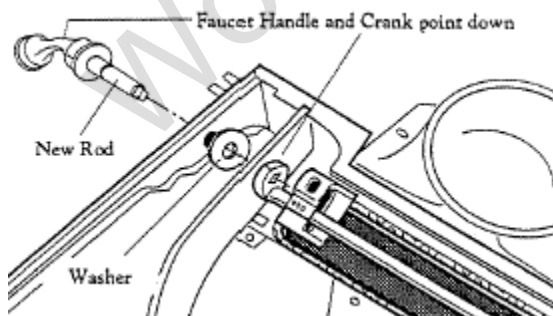

Figure 8
7. Install the new operating rod. Place the 5/8" washer onto the rod between the outer and inner walls (**Fig. 8**), then insert the end of the rod into the crank. Properly oriented, both the handle and the crank should be pointing downward.